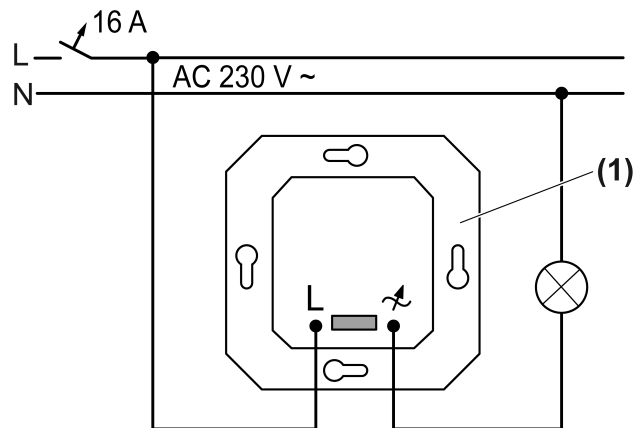

Figure 2: Connection diagram
- Connect the dimmer (1) according to the connection diagram (Figure 2).